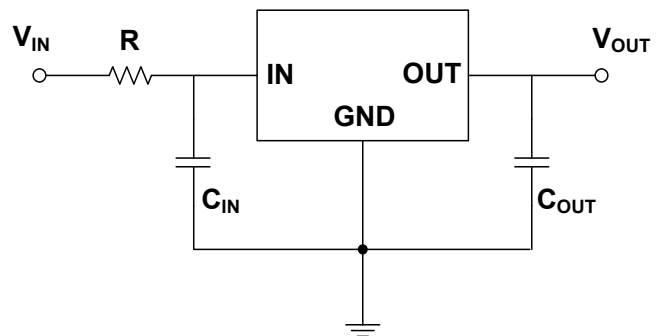

Figure 9-2. Resistance is used at IN
2. Place a resistor with appropriate resistance in series before the IN of the voltage regulator, which can help the voltage regulator share part of the energy in case of surge. The resistance value of the resistance should not be too large. The specific resistance value depends on the application of the circuit. Generally, the resistance value of this resistance does not exceed 20Ω. As shown in Figure 9-2.
For the CJ78M series, it is recommended that the input voltage should not exceed 17V and the peak voltage should not exceed 35V. **When the input voltage is greater than 17V, or the peak voltage that may be greater than 35V may appear in the practical circuit, it is recommended to adopt the circuit layout shown in Figure 9-2 in the circuit design.**
The CJ78M series can obtain better transient response with the help of output capacitance. However, if the output capacitor is relatively large, the surge current generated by the charging of the output capacitor will also be large at the moment of power on of the regulator, and the large surge current passing through the regulator may damage the internal circuit. When the output capacitance is large, adopting the circuit design shown in Figure 9-2 will reduce the possibility of damage to the device due to large surge current to a certain extent. It is recommended that the selection of output capacitor should not exceed 20 μ F. **If the selection of output capacitor exceeds 20 μ F, it is recommended to adopt the circuit design in Figure 9-2 to reduce the possibility of accidental failure of the device due to large surge current during power on.**
It is recommended that the output capacitor (C_{OUT}) should not exceed 20 μ F. When the output capacitor (C_{OUT}) exceeds 20 μ F, it is recommended to use the circuit layout shown in Figure 9-2. See *Large Output Capacitance* for more details.